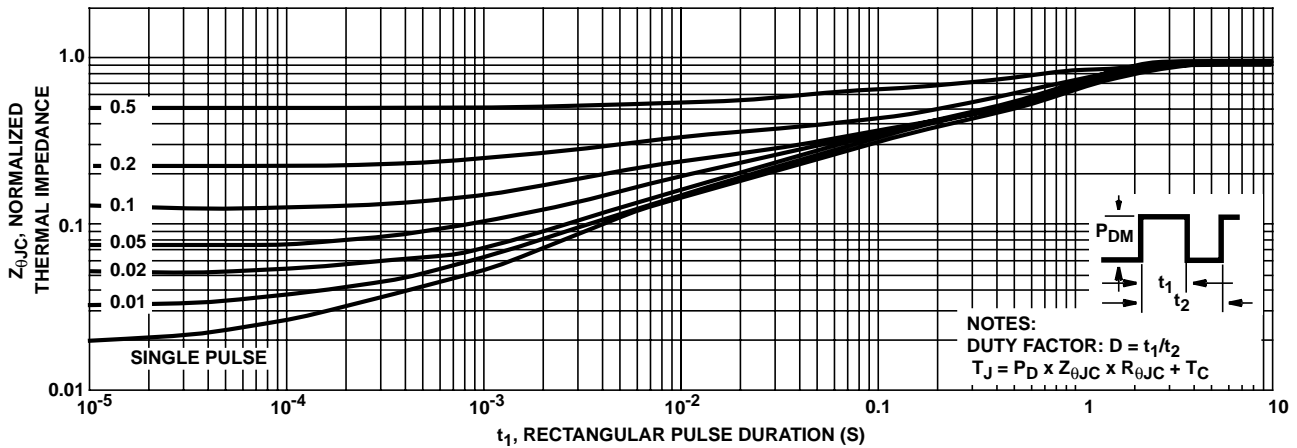

FIGURE 3. NORMALIZED MAXIMUM TRANSIENT THERMAL IMPEDANCE
3. Repetitive Rating: Pulse width is limited by Maximum junction temperature. See Transient Thermal Impedance curve (Figure 3).